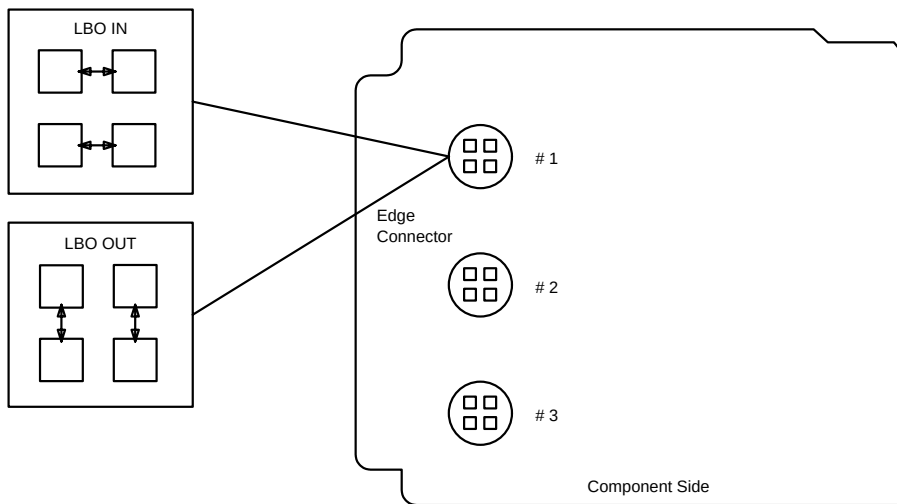

Figure 4. BBG11/BBG11B 3DS3 Option Settings
28. Refer to Table J and Figure 4. Install DS3 option jumpers per Table J.